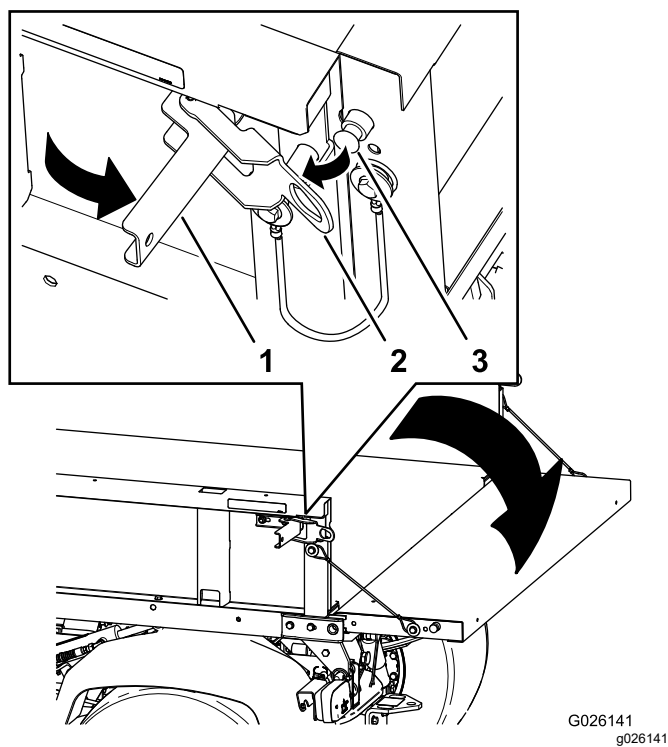

Figure 15
2. Open the latches on the left and right side of the cargo bed and lower the tailgate (Figure 15).